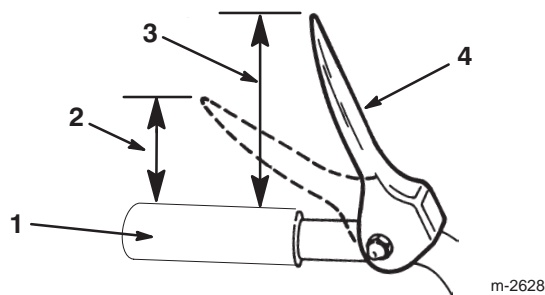

Figure 13
5. Check the distance between the top of the handgrip and the bottom of the auger/impeller drive control lever. The distance should be approximately four inches (10.2 centimeters) as shown in Figure 13.
Note: The amount of force needed to compress the lever increases noticeably when you remove the slack from the auger/impeller drive belt (approximately one-half of the lever movement). The adjustment is correct when the force *begins* to increase and the distance between the top of the handgrip and the bottom of the auger/impeller drive control lever is two inches (five centimeters) as shown in Figure 13.